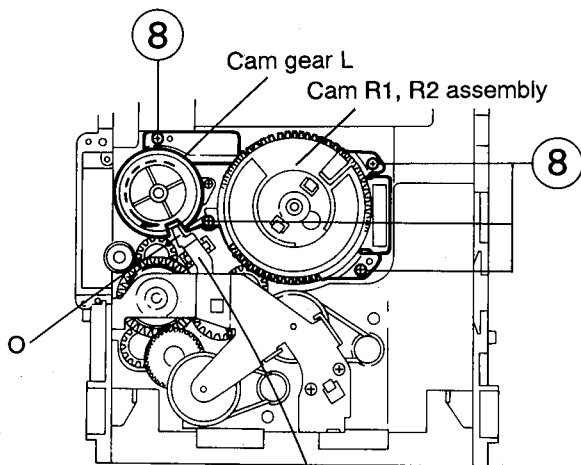

Fig. 2-27
4. While turning the cam gear L, align the pawl (O) position of the select lever to the notch position (Fig. 2-27) on the cam gear L.
5. Remove the four screws ⑧ retaining the cam unit (cam gear L and cams R1/R2 assembly) (See Fig. 2-27).